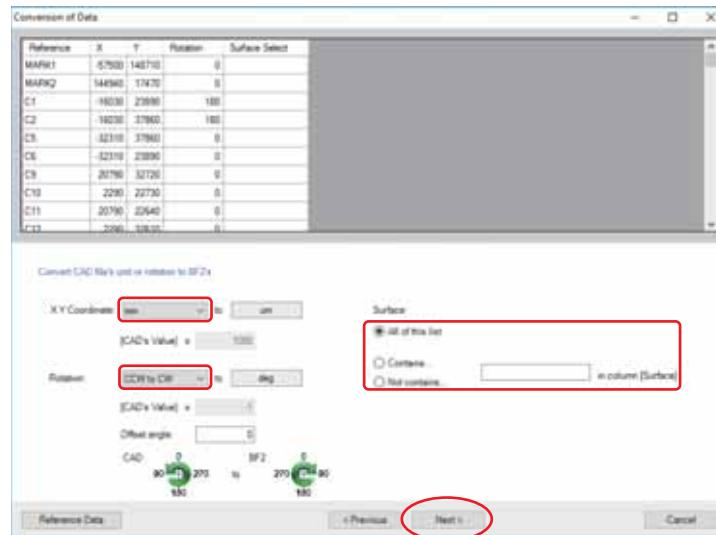

Figure 1-50 Data Conversion
- Step9: Select a conversion method for component coordinates and mounting angles from the drop-down lists of **XY Coordinate** and **Rotation** on Figure 1-50. After all the setting is completed, click **Next**.